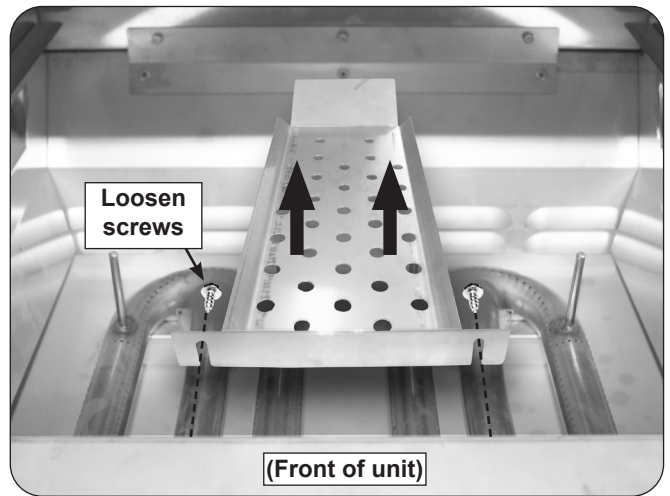

Fig. 46-1 Heat distribution grid removal
3. Loosen the two $\frac{5}{16}$ " hex screws and remove the heat distribution grid by lifting up, then outward, freeing the cutouts from the two loosened screws (see Fig. 46-1).